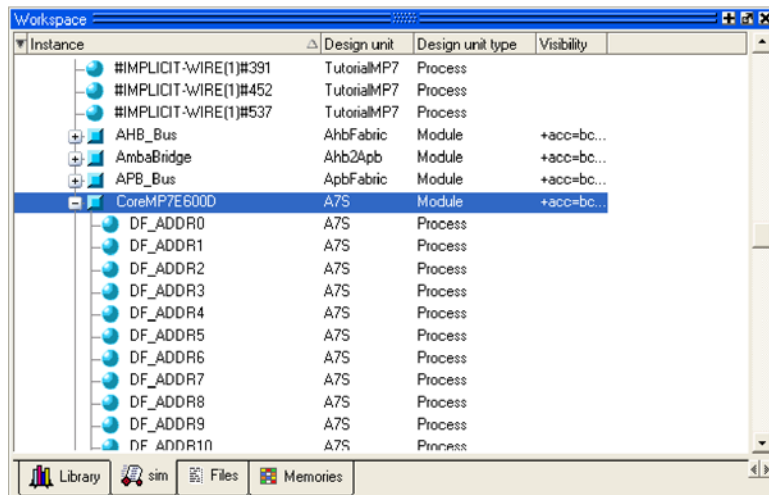

Figure 5-34. ModelSim Workspace Window
7. To add the CoreMP7 signals to the ModelSim Wave window, navigate to the **CoreMP7E600D** instance in the ModelSim workspace, which can be found under the following hierarchy (shown in Figure 5-34):